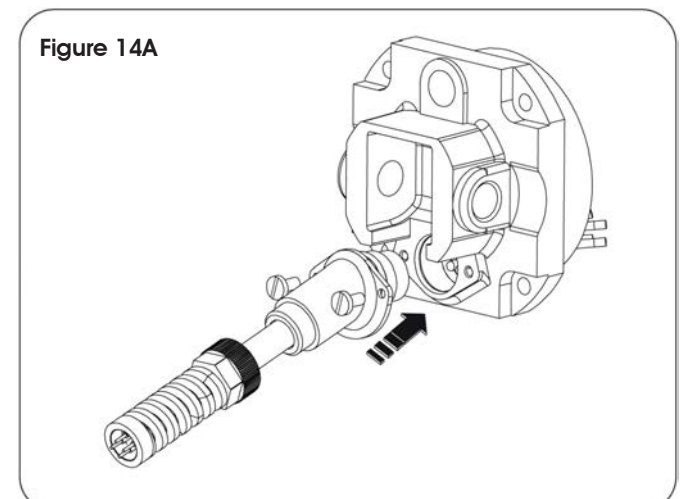

Figure 14A
15.) Connect the power cable to the operator and fasten the screws (Figure 14A).